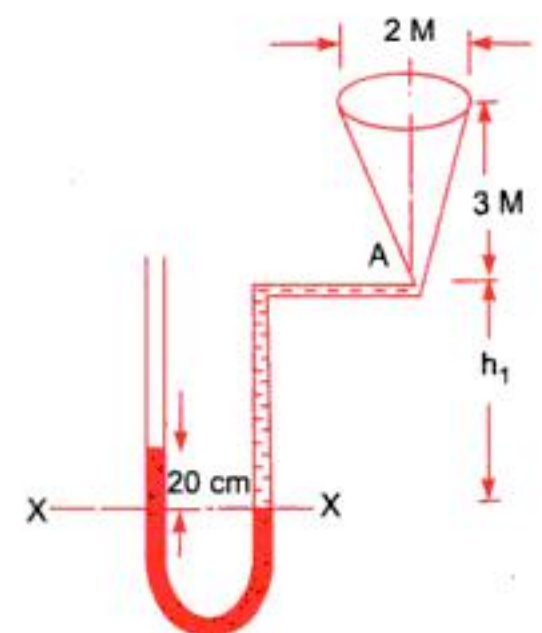

Fig. 2.12
**Problem 2.12** Fig. 2.12 shows a conical vessel having its outlet at A to which a U-tube manometer is connected. The reading of the manometer given in the figure shows when the vessel is empty. Find the reading of the manometer when the vessel is completely filled with water. (A.M.I.E., Winter 1975)